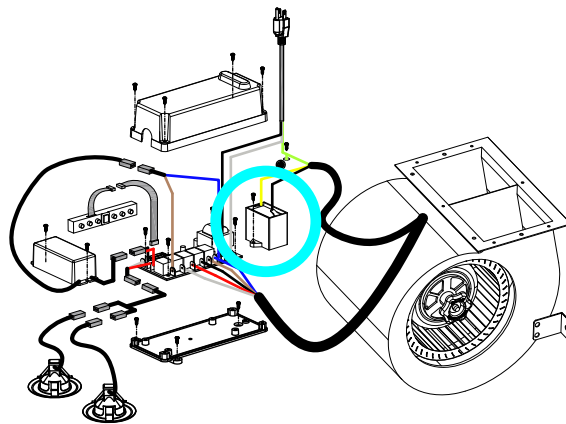

Figure 1
3. Remove the screw securing the capacitor (circled in blue) to the circuit board. *Figure 1*